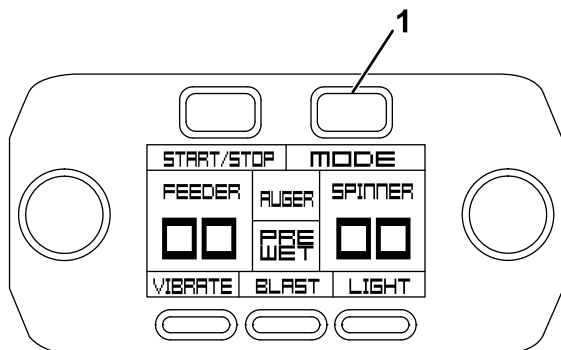

Figure 40
1. To activate the pre-wet system, press the Mode button on the controller (Figure 40).